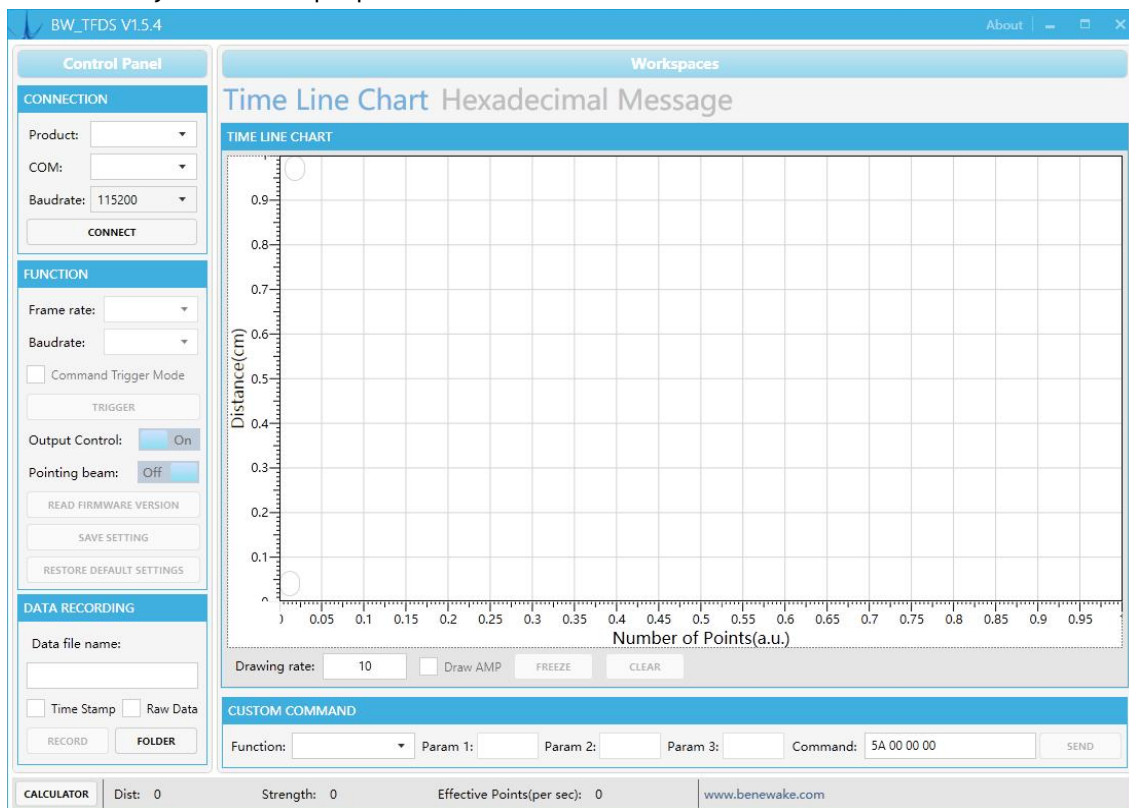

Figure 13 Benewake testing GUI for TF series
- See Figure 13 Benewake testing GUI for TF series of the GUI.